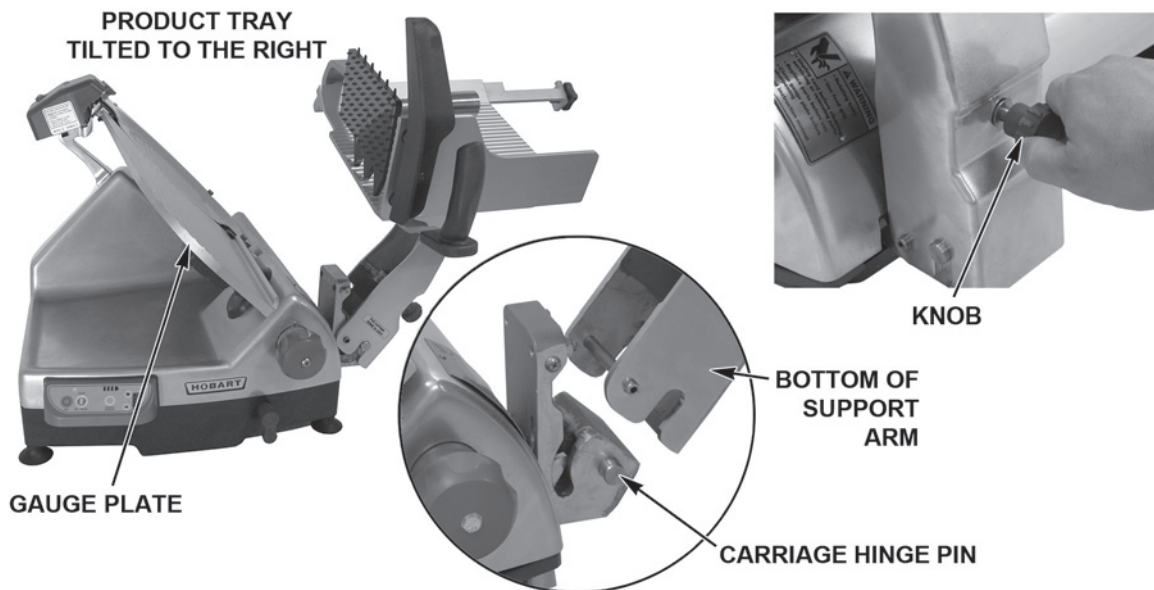

Fig. 25
- Lower the bottom of the Support Arm onto the Carriage Hinge Pins (Fig. 25).